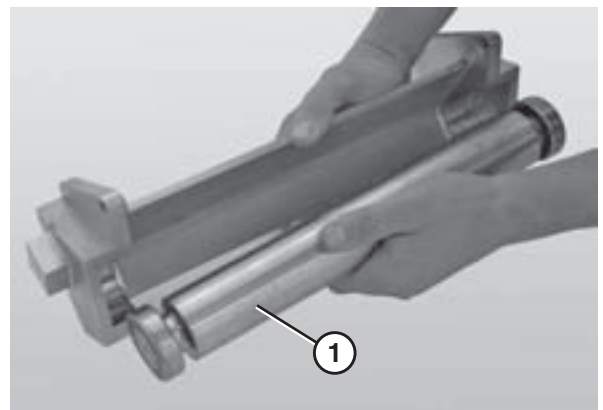

Figure 84
6. Remove the nose bar return spindle (Figure 84, item 1).